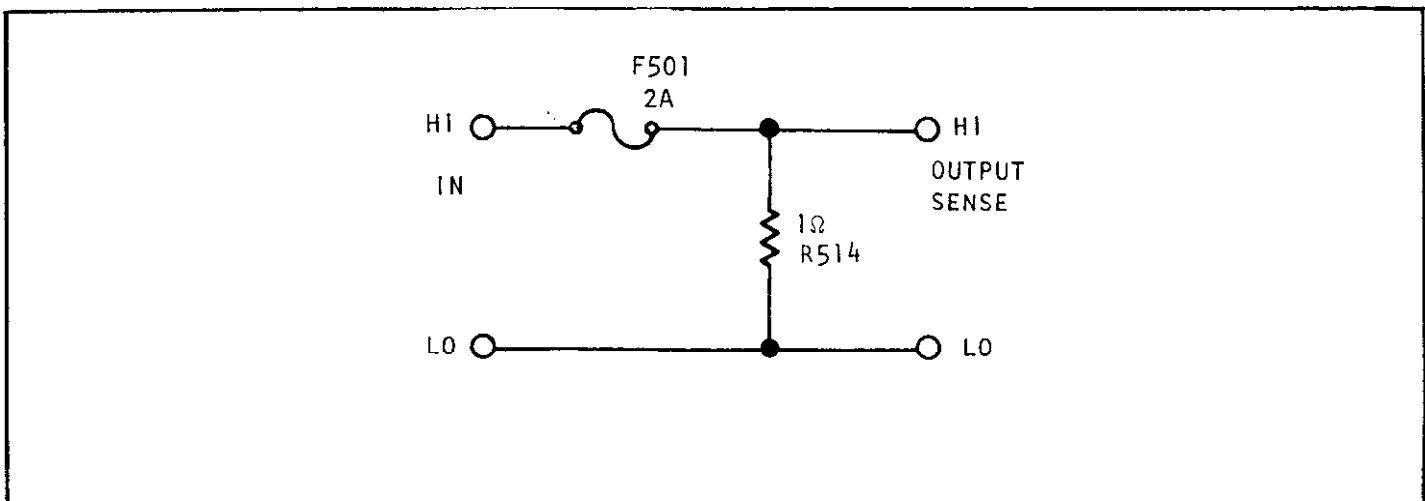

FIGURE 5-6. Simplified Schematic of Model 172A I/V Converter.
2) Model 172A I/V Converter. This current converter (shown in Figure 5-6) consists of a 1 ohm resistor (R154) and a 2A protection fuse (F501). The input current passes through the resistor developing an output voltage from 0 to 2 volts. For example: a 475mA input will produce an output voltage of 475mV. Since an ac current input will produce an ac voltage and a dc input will produce a dc voltage, the output of the I/V converter is routed through either the DC attenuator or the AC/DC converter before being applied to the A/D converter. Routing is controlled by the position of the DC/AC pushbutton, and the gains used are the same as those given in Table 5-2 for the 300mV (300 μ A)